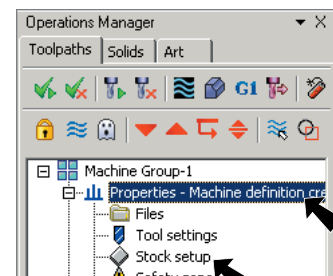

Fig. 1
Step 3. Expand **Properties** (click the +) in the Toolpaths Manager, **Fig. 1**.
Step 4. Click **Stock Setup** in the Toolpaths Manager, **Fig. 1**.